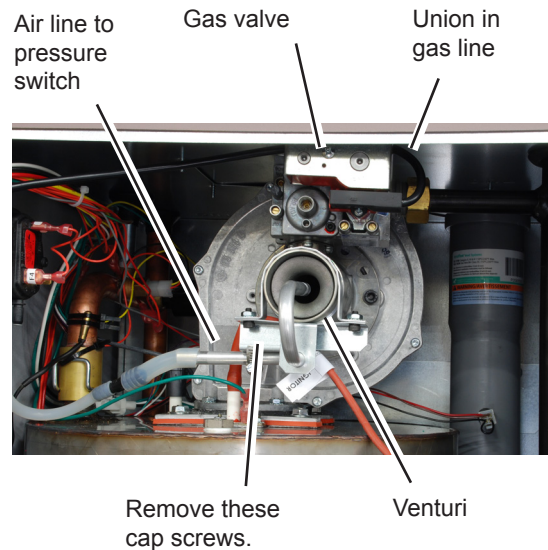

Fig. B10-1 - Water Pressure Switch
5. The water pressure switch is mounted in the upper left corner of the cabinet, as shown in Fig. B10-1. To get access to the switch, remove the upper front panel of the cabinet.